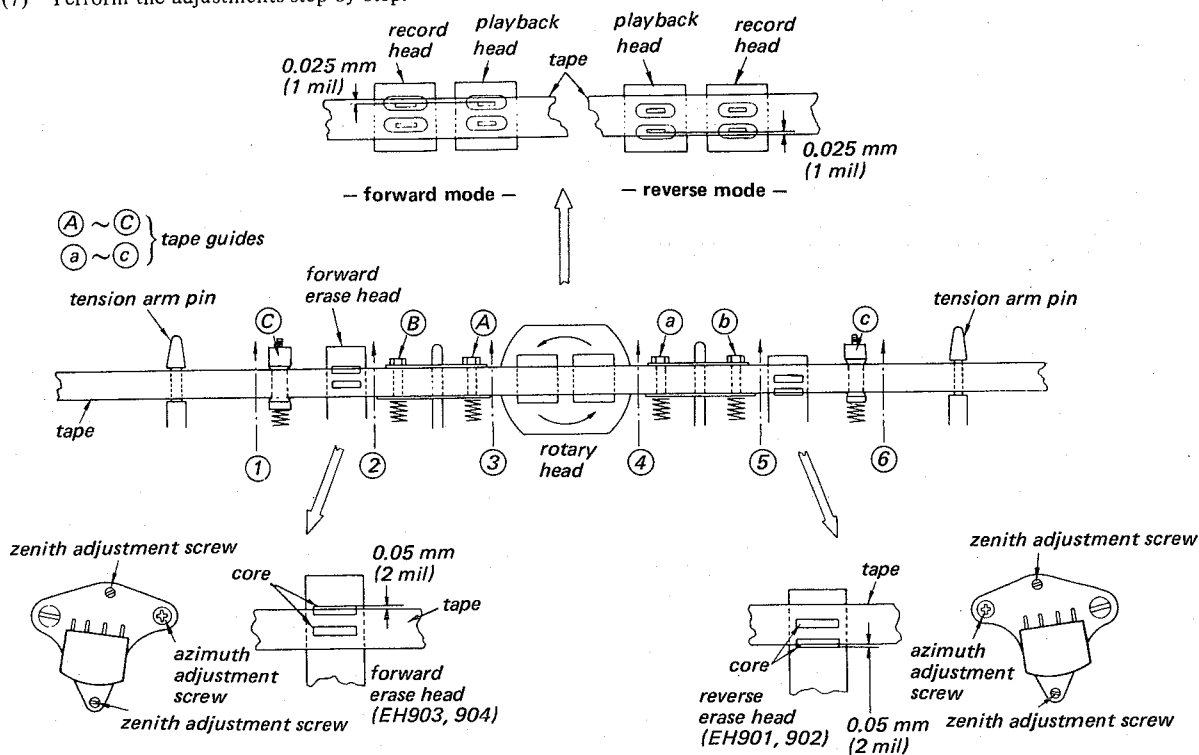

Fig. 3-2.
- 2) Turn the zenith adjustment screws in the same direction and same amount, to align the upper edge of the erase head core with the tape. Then turn the zenith adjustment screws counter-clockwise by 40 degrees. Thus upper edge of the head core becomes 0.05 mm (2 mil) higher than that of the tape. (See Fig. 3-2.)
- 2) Turn the zenith adjustment screws in the same direction and same amount, to align the lower edge of the erase head core with the tape. Then turn the zenith adjustment screws clockwise by 40 degrees. Thus the lower edge of the head core becomes 0.05 mm (2 mil) lower than that of the tape. (See Fig. 3-2.)